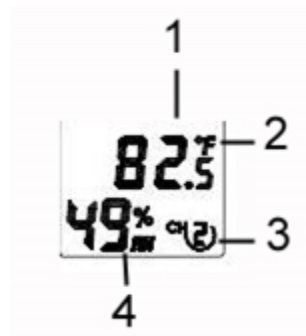

Figure 19
6. Verify the correct channel number (CH) and temperature units of measure (°F vs. °C) are on the display, as shown in Figure 19.